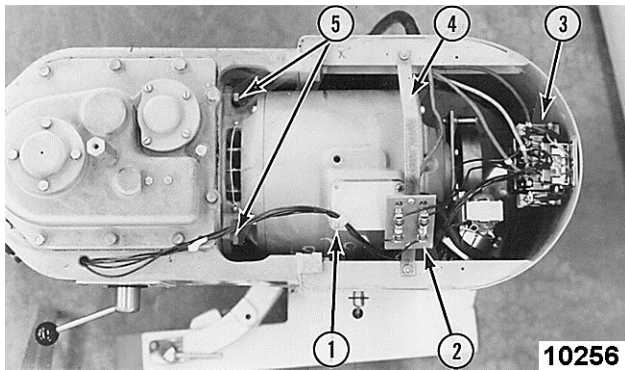

Fig. 97
- C. Support rear of motor under motor housing or brake assembly and remove the two upper motor mounting bolts [5] Fig. 97.